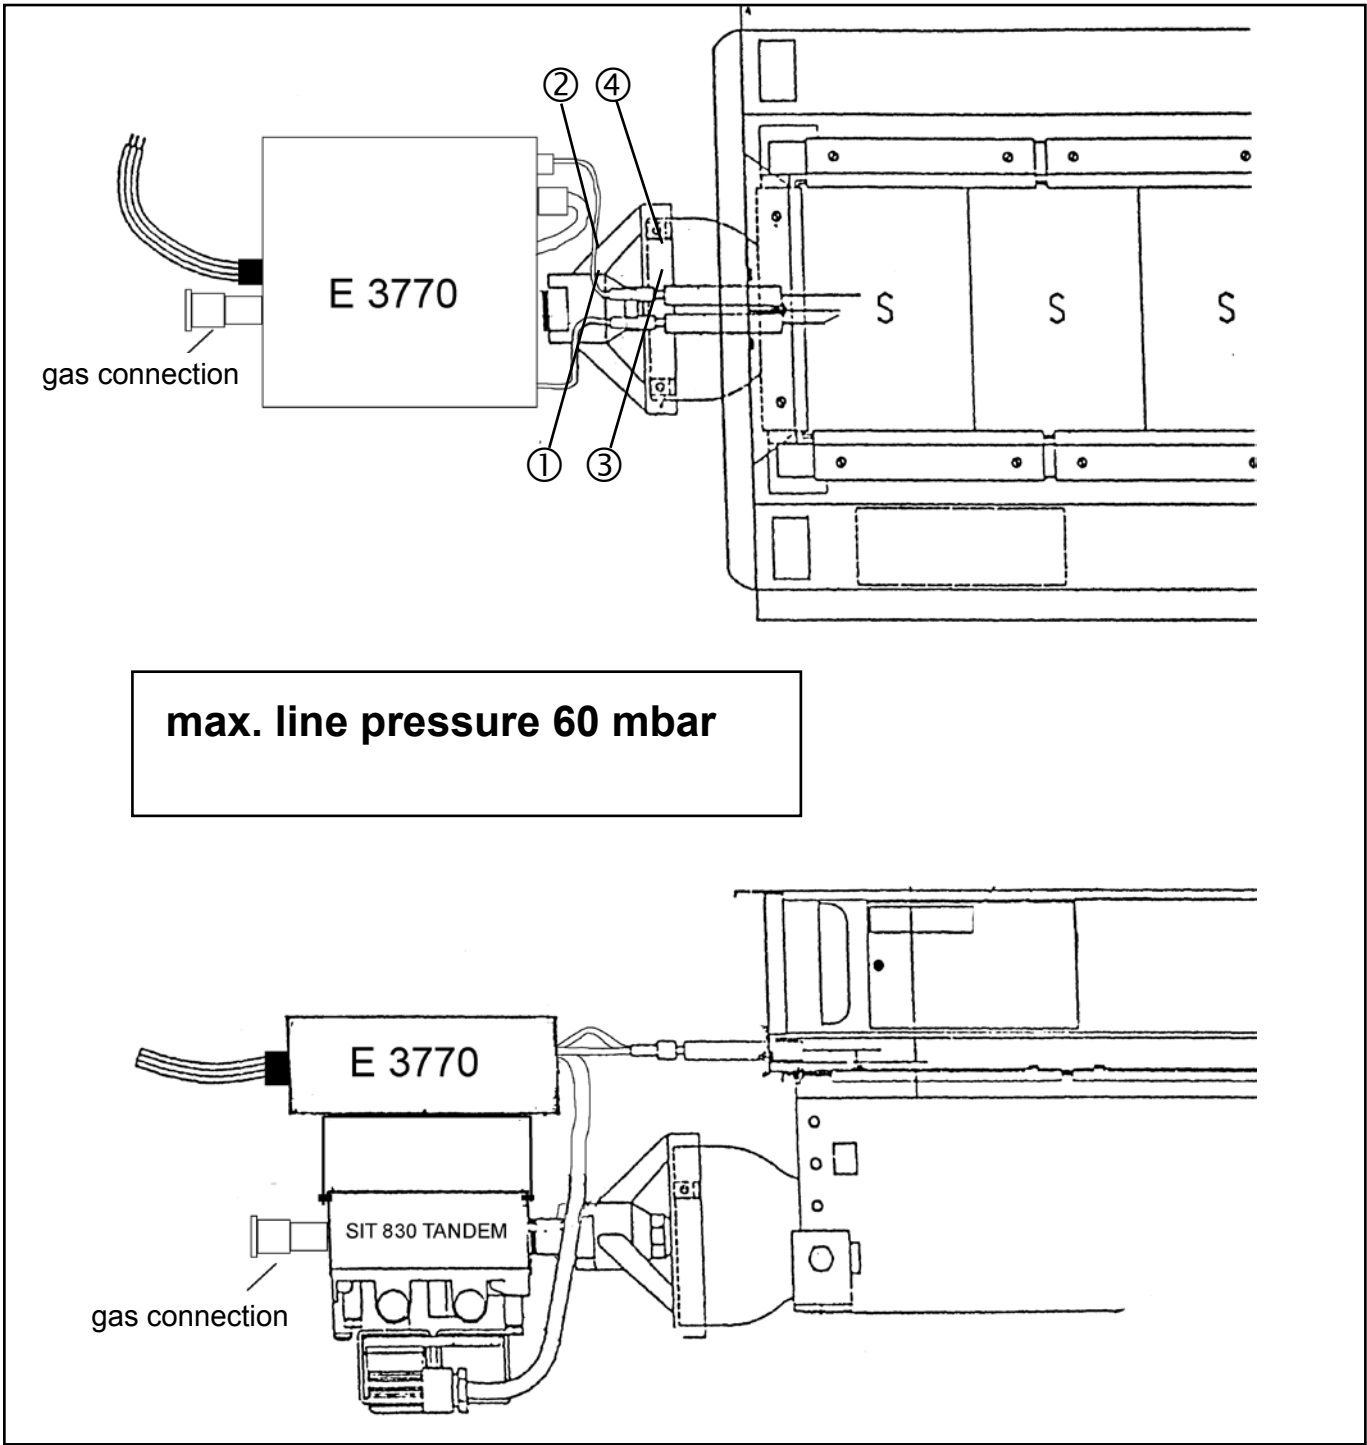

Fig. 11: Installation of the ignition and control unit
- ⇒ Connect the ignition cable (1) with the ignition electrode (3). Ensure proper seating.
- ⇒ Connect the ionisation cable (2) with the ionisation electrode (4) (Fig.11).